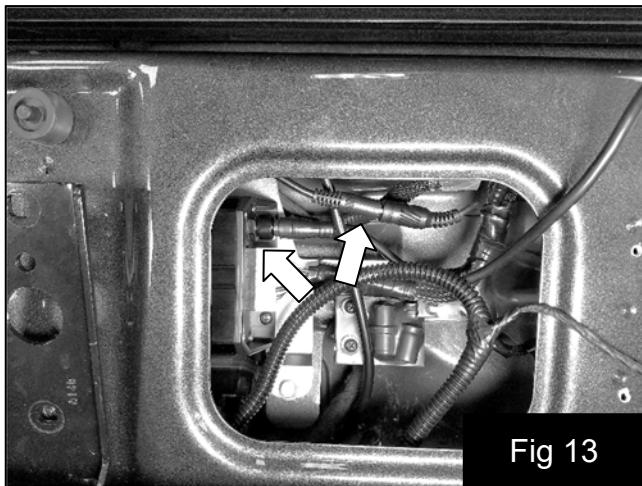

Fig 13
23. Connect the controller to the amplifier and secure by turning locking ring until finger tight. Fig 13
24. Connect the 1/8-inch jack to the amplifier. Fig 13